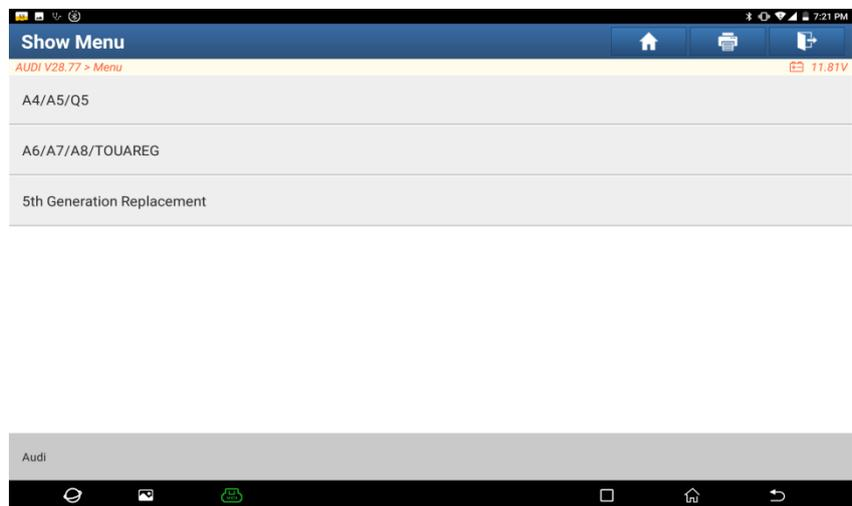

Figure 5
3.2.1.4 Connect X431G3 Anti-Theft Programmer to the connector according to the diagram, and click [OK], as shown in Figure 5.